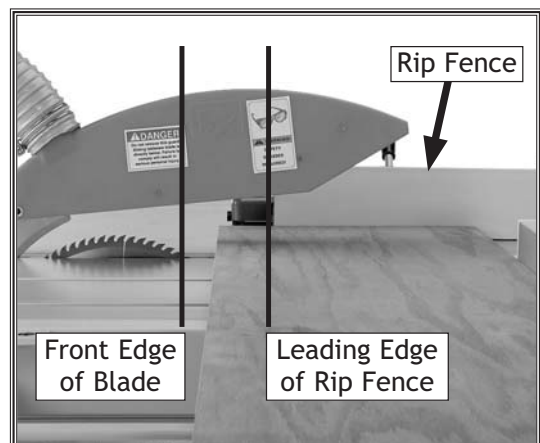

Figure 76. Correct rip fence position when using it as a cut-off gauge.
5. Slide the leading end of the rip fence behind the front edge of the blade as shown in **Figure 76**. (This step is critical to reduce the risk of blade binding and kickback.)